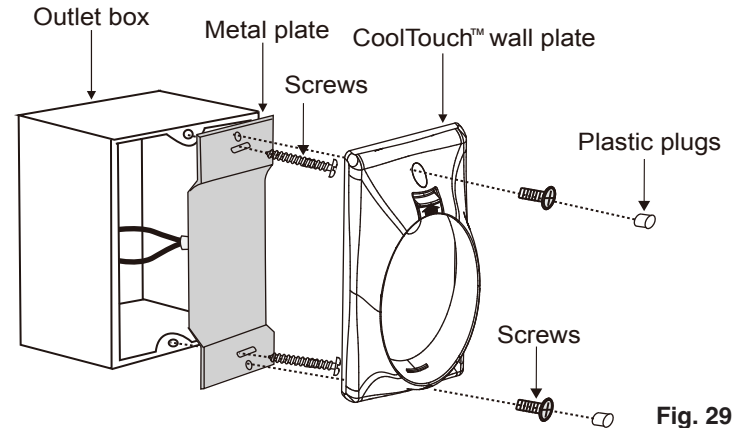

Fig. 29
**Step 2.** Install the metal plate and CoolTouch™ wall plate to the existing wall outlet box with 4 screws provided. Then place the two plastic plugs into the wall plate. (Fig. 29)